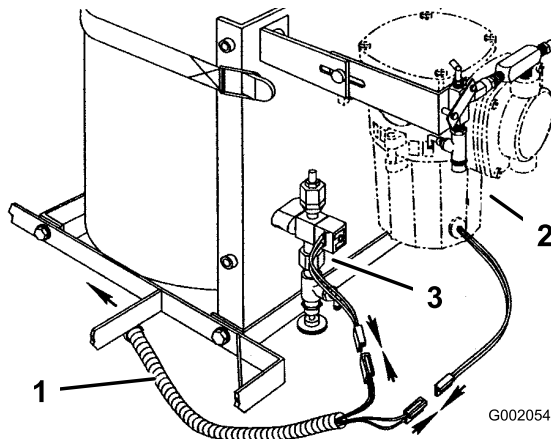

Figure 17
- Locate the labeled connectors wiring harness for the foam marker solenoid and compressor and make the connections to the compressor and the solenoid located at the foam tank/compressor assembly (Figure 17).
Note: Both of the plug connections are identical (Figure 17).